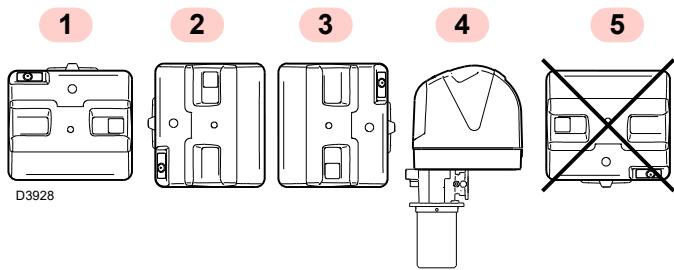

Fig. 8
- The burner is designed to work only in positions **1, 2, 3** and **4** (Fig. 8).